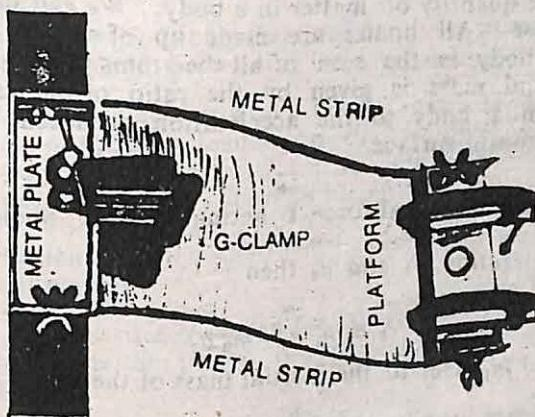

Fig. 4.2. Inertial Balance in Horizontal Motion.
2. Push the platform or the pan to one side with a finger and release it so that the platform starts oscillating in a horizontal plane Fig. 4.2. Since the blades vibrate horizontally the action of the inertia balance is entirely independent of gravity, which acts vertically. Make sure that the blade oscillates for about 10 oscillations with almost the same amplitude. This is necessary for a satisfactory experiment.